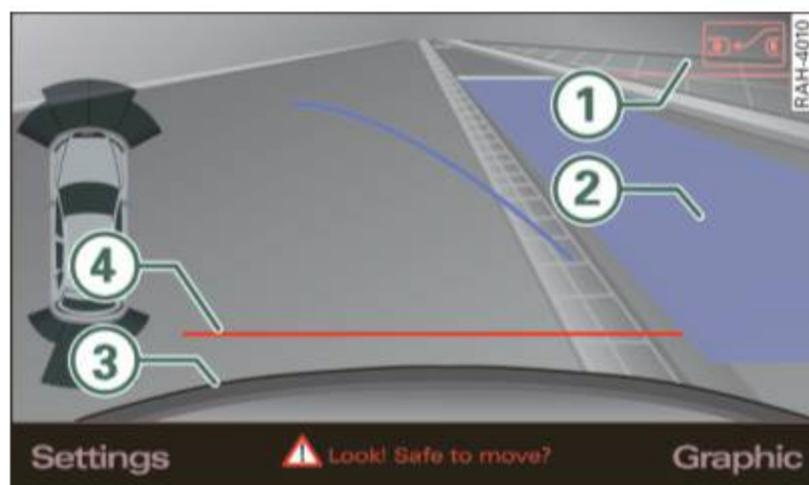
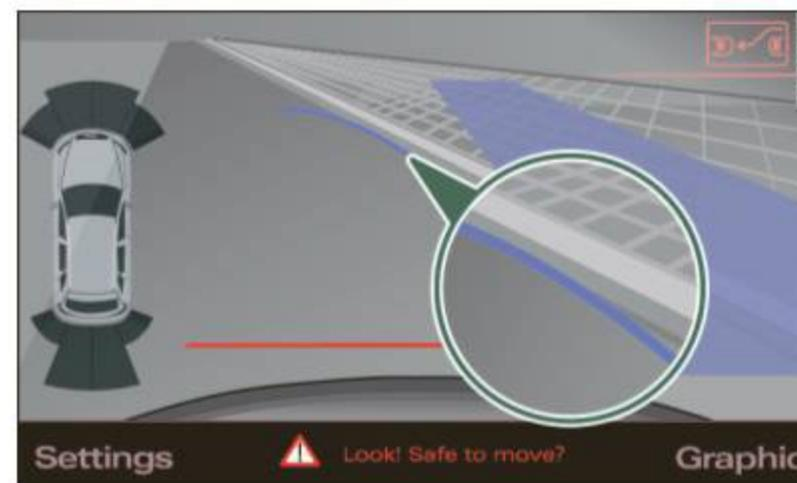

Fig. 150 MMI display:
Fig. 151 MMI display:
- Press the control button ① ⇒ fig. 150 on the MMI terminal. Parking mode 2 appears.
- Back up and align your vehicle so the blue area ② borders on the rear end of the vehicle or on the parking spot line. The blue area represents an extension of the vehicle's outline by approximately 16 ft (5 meters) to the rear. The long side of the blue area should be on the curb. The entire blue area must fit into the parking spot.
- Back into the parking spot until the blue curve touches the curb ⇒ *page 138*, fig. 151. Stop the vehicle.
- Continue to back into the parking spot until the vehicle is parked parallel to the curb. ③ marks the rear bumper. Stop the vehicle when the red orientation line ④ borders an object ⇒ ⚠. Keep an eye on the front of your vehicle while doing this ⇒ ⚠.
When there is an obstacle (such as a wall) next to the parking spot, choose a spot with more space on the sides. Position the long side of the blue area so that there is sufficient space from the curb. The area must not be on the curb. You will also need to start turning the steering wheel much earlier. There should be a sufficient amount of space between the curb and the blue curve, and the blue curve ⇒ *page 138*, fig. 151 must **not** touch the curb.